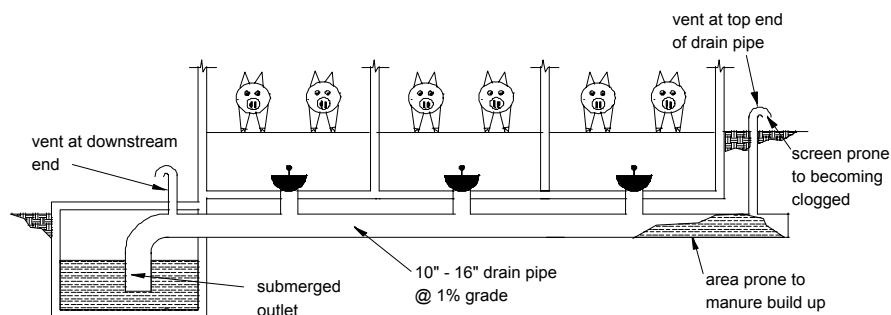

Figure 1: manure pit drain pipe and venting
1. There is a build-up of solids in the sewer line between the last plug and the vent as shown in Figure 1. This length of pipe will fill with manure when the pits are emptied but there is never any subsequent flushing action. As a consequence, the solids settle out and over time the build up blocks the venting.